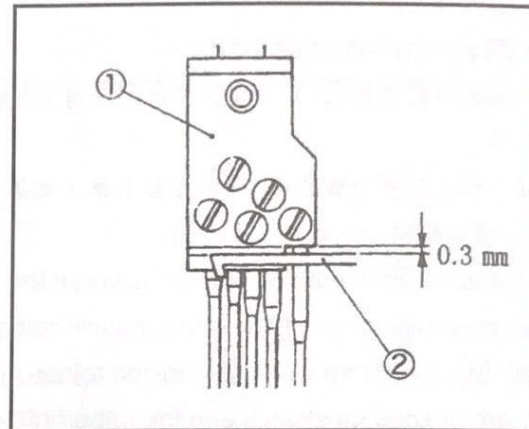

Fig.7
2. 當針柱在最低位置和壓腳完全抬舉時，針鉗①和上網線勾②需留間隙 0.3mm。(Fig.7)
2. As standard, make the clearance between the notch of the needle clamp ① and the top cover thread hook ② to 0.3mm when the needle bar is at the lowest point and the presser foot is raised by pressing the presser foot pedal fully. (Fig. 7)